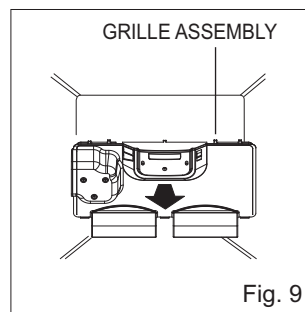

Fig. 9
1. Pull out the grille assembly. (Fig. 9)